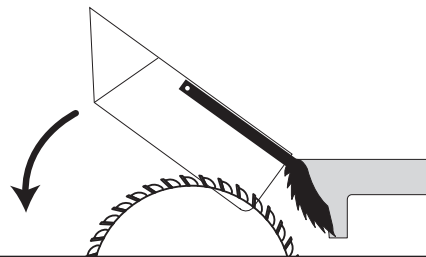

Figure 42. Typical ripping operation.
10. Use a push stick to feed the workpiece through the saw blade, as shown in **Figure 42**, until the workpiece is completely past the saw blade.